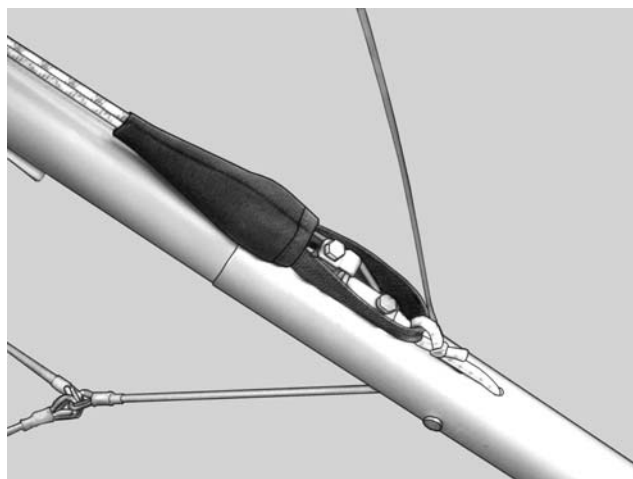

Fig. 12
9. Spread the wings all the way and check all cables for any twisted thimbles or tangled cables. At the rear of the keel find the shackle of the sweep wire. Pull the shackle out the rear end of the keel pocket, and check that the sweep wire is not wrapped around the keel. Attach the shackle of the sweep wire to the hook on the keel tube (Fig. 12).